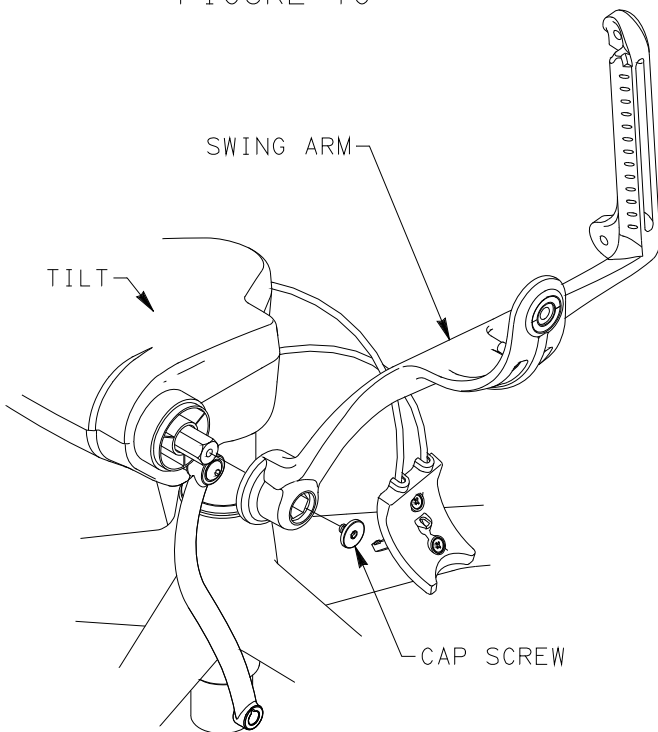

FIGURE 11
-CHAIRS MANUFACTURED BEFORE 9/16/96: USING T-40 TORX BIT AND RATCHET WRENCH, REMOVE CAP SCREW. REMOVE SWING ARM. PROPERLY DISPOSE OF SWING ARM AND CAP SCREW. SEE FIGURE 11.